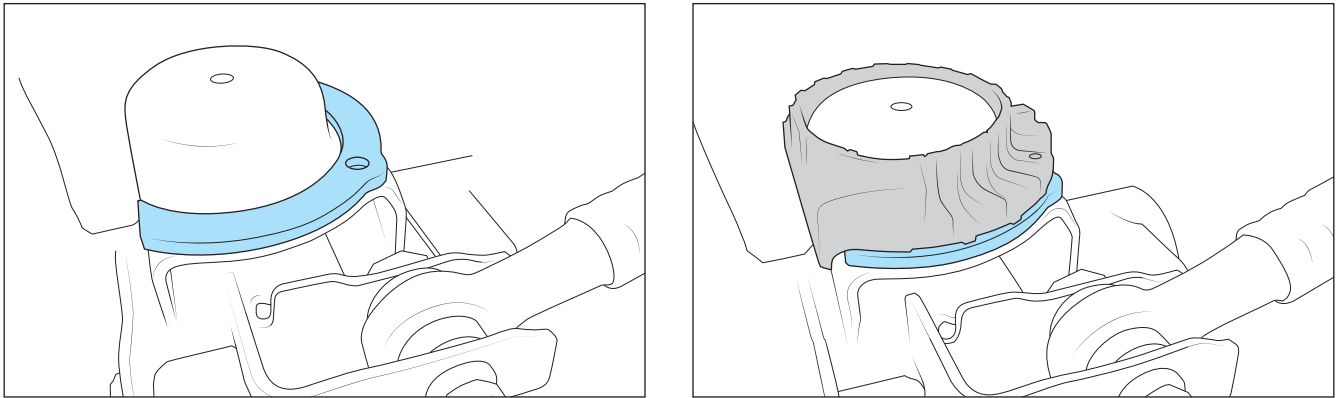

Figure 23
- A. Remove passenger lower spring isolator by carefully prying it upward away from axle. Install front spring shim to bottom of isolator, passing molded stud through hole in shim. Reinstall assembly onto axle spring seat (Fig 23). There is more weight on right side of vehicle than left, so this helps it sit level. Shim sits underneath isolator on axle.